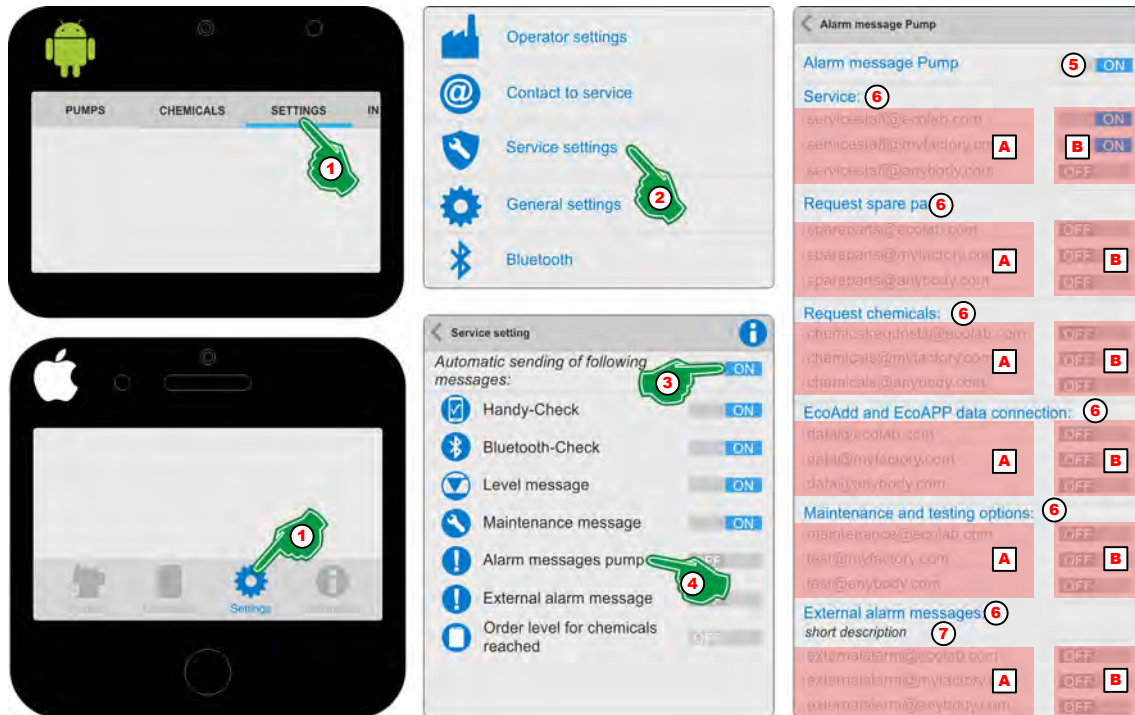

Fig. 10: 'Alarm messages pump' !
1. ▶ Select [Settings] (Fig. 10, Pos. 1).
2. ▶ Select [Service Settings] (Fig. 10, Pos. 2).
3. ▶ Turn on 'Automatic sending of the following messages' (Fig. 10, Pos. 3) **ON**.
4. ▶ The symbol or designation 'Alarm messages pump' ! (Fig. 10, Pos. 4).
5. ▶ 'Alarm messages pump' (Fig. 10, Pos. 5) **ON**.
6. ▶ Turn on desired service contacts (Fig. 10, Pos. A) **ON** (Fig. 10, Pos. B) .
7. ▶ To display errors when using an external controller (Fig. 10, , Pos. 7) introduce a brief description (Fig. 10, Pos. 8) for identification.